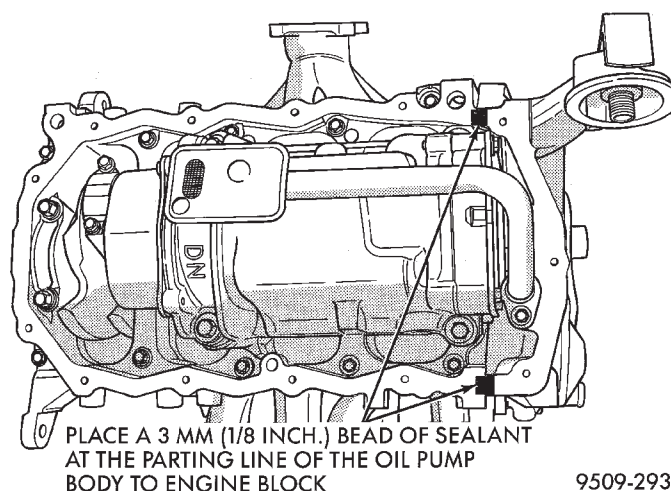

Fig. 59 Oil Pan Sealing
- (1) Apply Mopar Silicone Rubber Adhesive Sealant or equivalent at the oil pump to engine block parting line (Fig. 59).